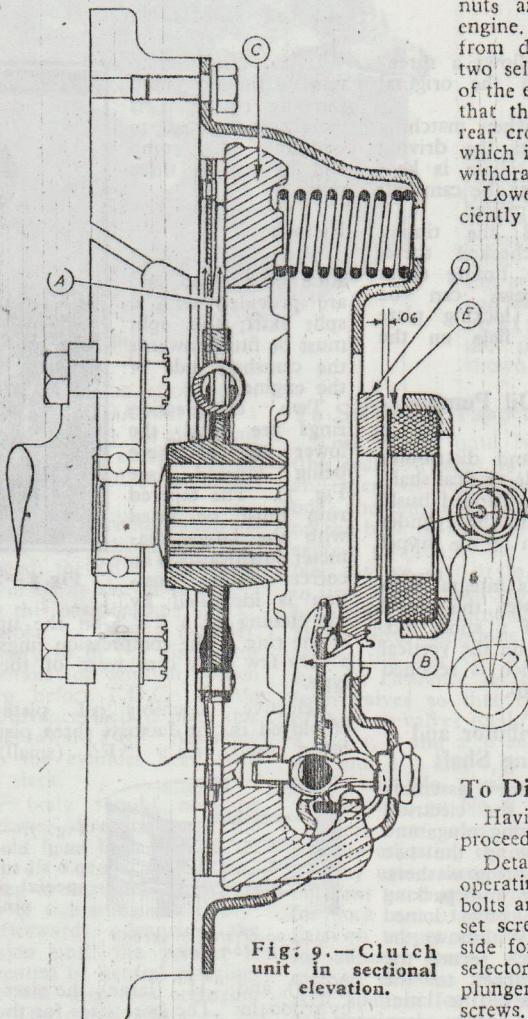
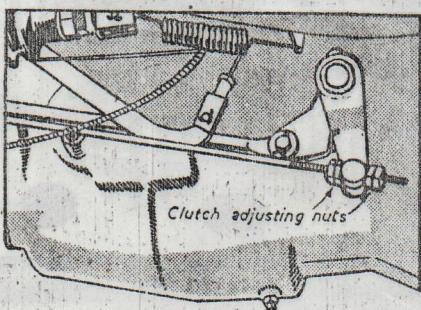

Fig. 9.—Clutch unit in sectional elevation.
Fig. 10.—Clutch adjustment.
The clutch (see Fig. 9) is of the single dry-plate type, consisting of a driving plate assembly splined to the gearbox constant pinion shaft's forward extension; a cover assembly and a release bearing which is operated by a fork mounted on the clutch cross shaft.
As wear occurs to the friction facings (A), the outer ends of the release levers (B) will move with the pressure plate (C) closer to the flywheel, and the inner ends of these levers will move outwards with the release lever plate (D) thus reducing the clearance between (D) and (E). It will be understood, therefore, that as this necessary clearance of $1/16$ in. (.0625in.) is reduced by wear it is necessary to restore it by suitable adjustment of the fork which carries the release bearing carrier. This is effected by alteration of the adjusting nuts shown in Fig. 10.
the four nuts shown in Fig. 10, until there is an inch of free movement at the pedal pad, which represents the necessary $1/16$ in. clearance between (D) and (E) (see Fig. 9).